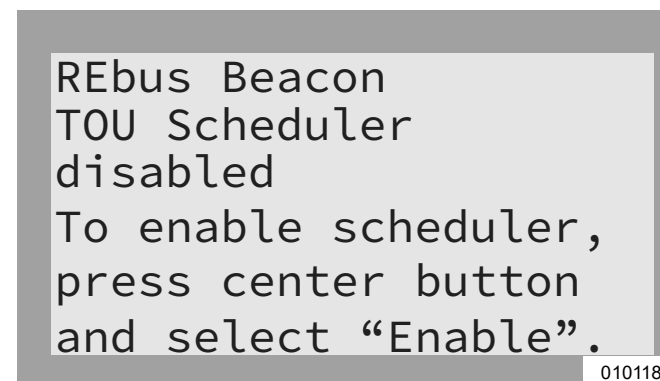

Figure 6-22. Enabling TOU Scheduler (1 of 2)
1. See Figure 6-22. Navigate to the REbus Beacon device page and press the center button to enter the device menu.